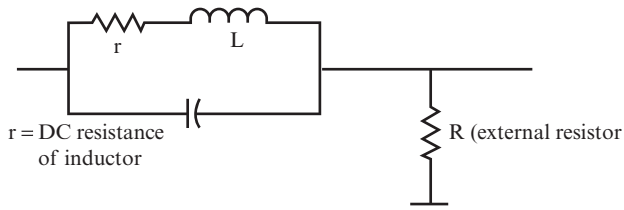

FIGURE 7.30
When you calculate Q for a circuit containing an inductor and capacitor in parallel, as with the circuit shown in Figure 7.30, you do not include the value of the resistor (R) in the calculation. The only resistance you use in the calculation is the DC resistance (r) of the inductor.